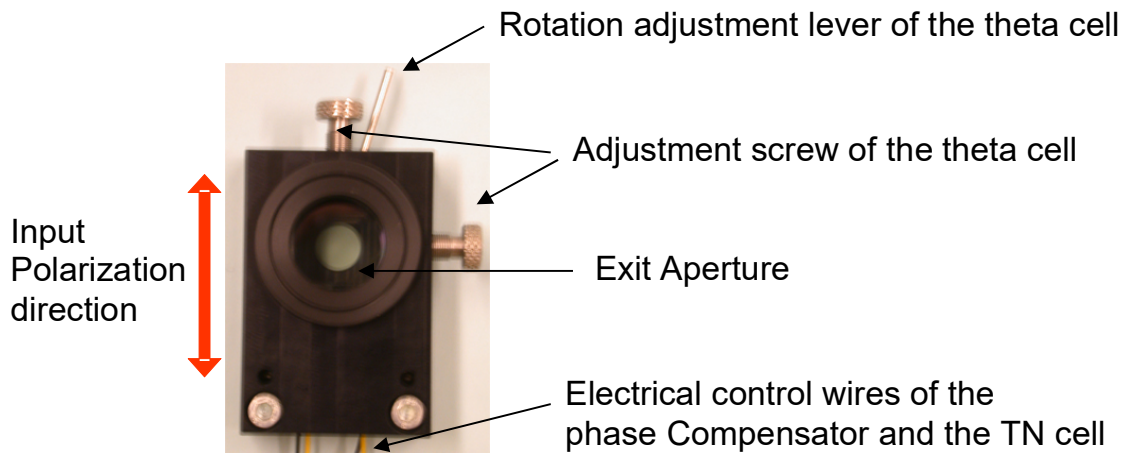

Figure 4: The liquid crystal polarization converter in its final housing. The clear aperture is 10 mm.
The complete system (polarization converter + TN cell+ variable phase Compensator (retarder or shifter) is integrated into an aluminum housing as shown in figure 4. The polarization converter can be rotated and translated with respect to the TN cell and the phase compensator with the rotation lever and the x-y adjustment screws. Two wires must be connected to a conventional labor AC power supply for setting the adequate phase retardation depending of the used wavelength and to the two other wires must be connected to a second power supply capable to switch between 0 and (at least) 5V (see electrical connection section).
Notice that in figure 4 the polarization converter (between polarizers) is illuminated with white diffuse light. If the system is illuminated with a collimated coherent laser beam the defect line (π phase step) of the theta cell produces a diffraction pattern (low intensity line in the center) that disturb the intensity profile at the output of the system (see figures in the alignment section). This line disappears when an additional phase compensator is inserted in the system to compensate the π phase shift of the theta cell. A further spatial filter after the polarization converter may be used to clean up some residual inhomogenities in the intensity profile.
- 3) **Make sure that the incoming light is linearly polarized and correctly oriented with respect to the device (see figure 4**
- 7) Rotate and translate the theta-cell with the rotation lever (should be very close to the vertical position) and the x-y translation screws (see figure 4) until the two lines are perfectly superposed and with the CCD camera you observe only one line as shown in figure 7C. Notice that it is possible that the two lines already superpose, move x-y to check this.
- 1) **Is the input light polarized and the polarization along the housing as indicated in the manual Fig.4?**